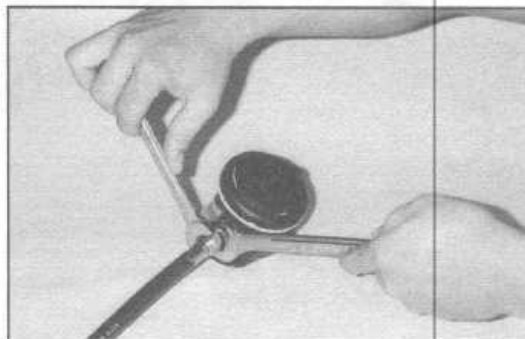

FIG 6-1
1. Remove the LP hose (14) from the second stage using only the following technique.
Grasp the hex portion of the inlet coupler (10) with a 3/4" open end wrench. Next, use an 11/16" open end wrench to loosen the LP hose nut in a counterclockwise movement. Refer to figure 6-1.